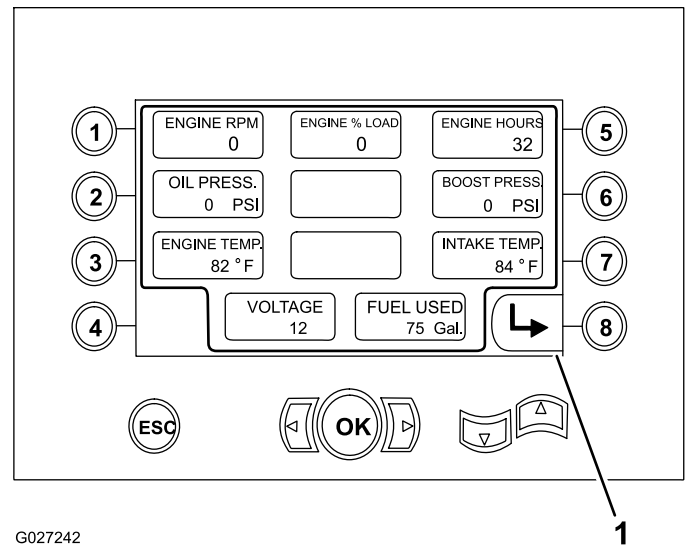

Figure 35
- Engine speed in rpm (Figure 35)
- Engine load percentage (Figure 35)
- Engine hours (Figure 35)
- Oil pressure and boost pressure (Figure 35)
- Engine coolant and intake temperature (Figure 35)
- Voltage (Figure 35)
- Amount of fuel used (Figure 35)